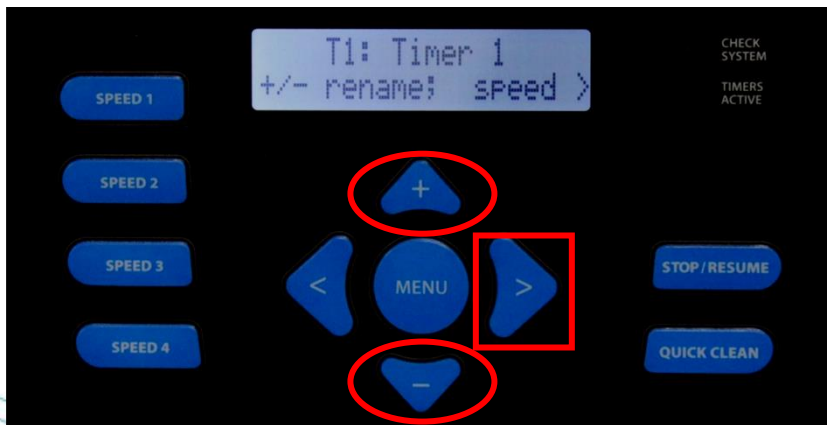

Figure 45
4. This screen allows you to rename Timer 1 to match a selection including; Cleaner, Water Feature, Clean, etc by pressing the  &  button (fig 45). Press the  button to continue.